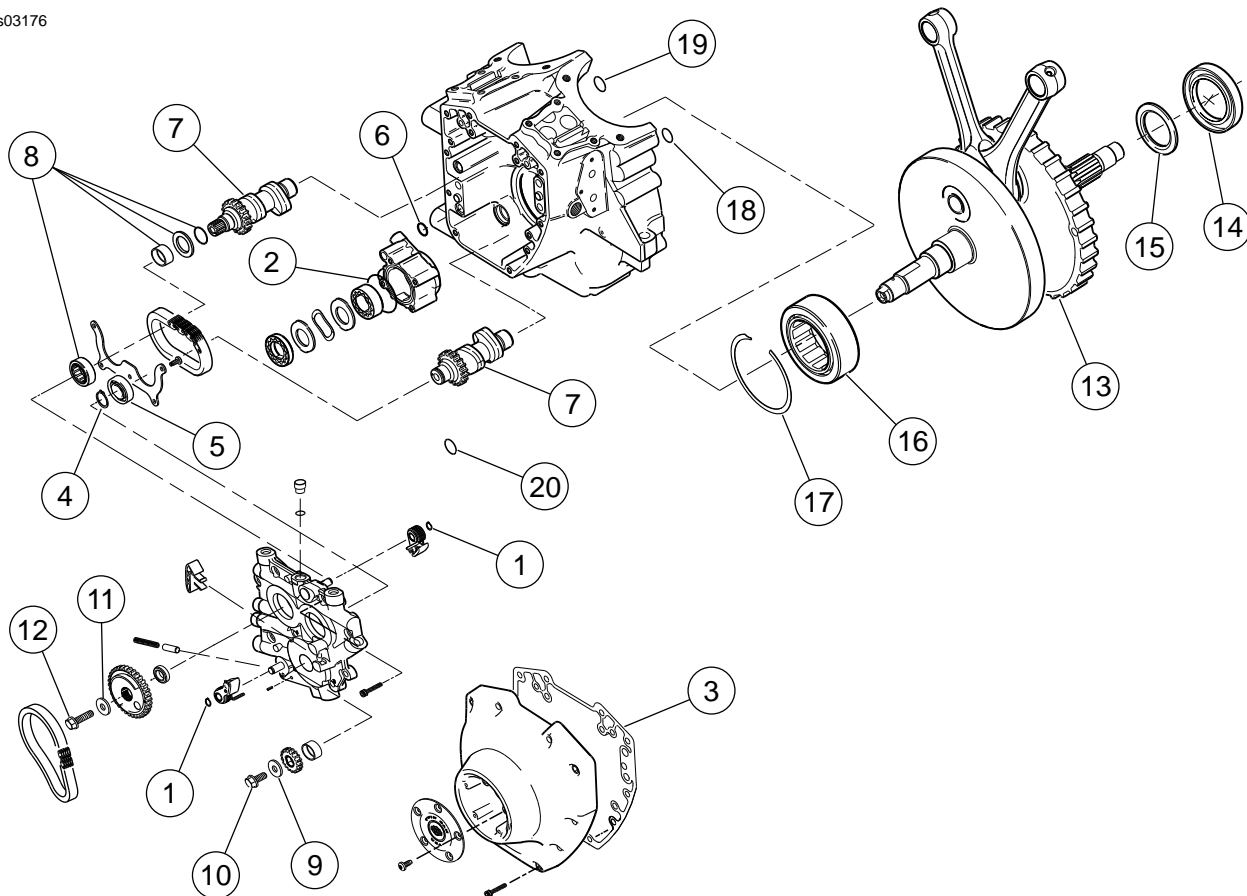

Figure 10. Service Parts: Screamin' Eagle Twin Cam 103 (1690 CC) Conversion Kit
Replace oil pump to cam plate O-ring (Figure 10, item 2) and cam plate to crankcase O-ring (Figure 10, item 6).
3. See Figure 10. Use cam flange screw (12), washer (11), crank flange screw (10), and washer (9) from kit.
Replace cam cover gasket (Figure 10, item 3).
1. See Figure 10. Install exhaust system using mufflers (21) and retaining rings (22) from kit and muffler end caps purchased separately. Refer to EXHAUST SYSTEM INSTALLATION in Service Manual.